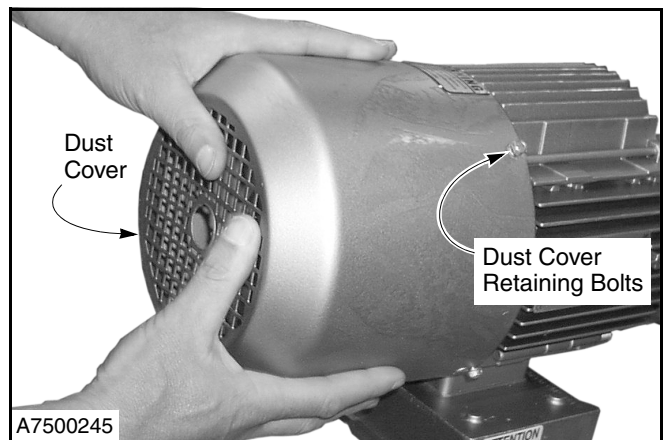

Figure 49
2. Loosen hex-head bolts retaining the dust cover to the motor assembly. Remove the cover. (See Figure 49.)